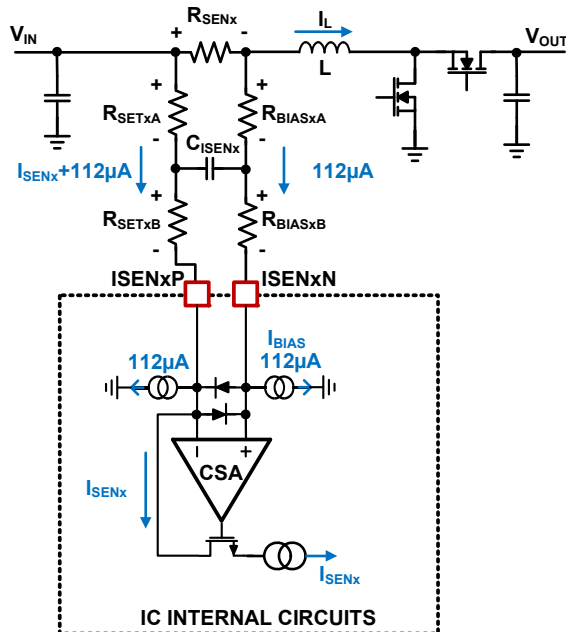

FIGURE 60. CURRENT-SENSING BLOCK DIAGRAM
The ISL78227 peak current control architecture senses the inductor current continuously for fast response. A sense resistor is placed in series with the power inductor for each phase. The ISL78227 Current Sense Amplifiers (CSA) continuously sense the respective inductor current as shown in Figure 60 on page 31 by sensing the voltage signal across the sense resistor, R_{SENx} (where "x" indicates the specific phase number and same note applied throughout this document). The sensed current for each active phase is used for peak current mode control loop, phase current balance, individual phase cycle-by-cycle peak current limiting (OC1), individual phase overcurrent fault protection (OC2_PEAK), input average Constant Current (CC) control and average overcurrent protection (OC_AVG), diode emulation, and phase drop control. The internal circuitry shown in Figure 60 represents a single phase. This circuitry is repeated for each phase.
The RC network between the R_{SENx} and $ISENxP/N$ pins as shown in Figure 60 is the recommended configuration. The $ISENxP$ pin should be connected to the positive potential of the R_{SEN_CHx} through resistor R_{SETx} , where in Figure 60, R_{SETx} is composed by R_{SETxA} plus R_{SETxB} . R_{SET} is used to set the current sense gain externally.
Because there is an $112\mu A$ bias current sinking to each of the $ISENxP$ and $ISENxN$ pins, R_{BIASx} with the same value to R_{SETx} should be placed between the $ISENxN$ pin to the low potential of the R_{SENx} , where in Figure 60, R_{BIASx} is composed by R_{BIASxA} plus R_{BIASxB} .
It is recommended to have $R_{SETxA} = R_{BIASxA}$ and $R_{SETxB} = R_{BIASxB}$, and insert a capacitor (C_{ISENx}) between them as shown in Figure 60. This will form a symmetric noise filter for the small current sense signals. The differential filtering time constant equals to $(R_{SETxA} + R_{BIASxA}) \cdot C_{ISENx}$. This time constant is typically selected in range of tens of ns depending on the actual noise levels.